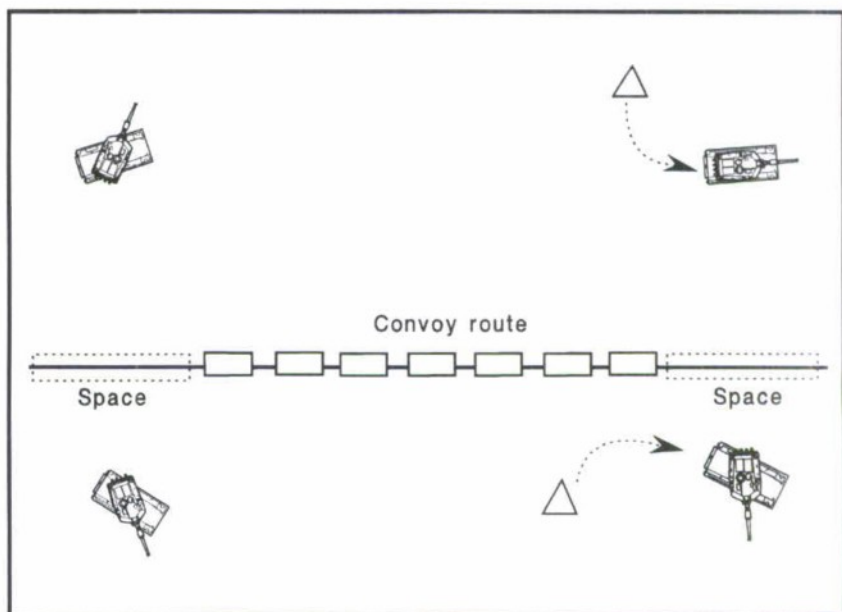
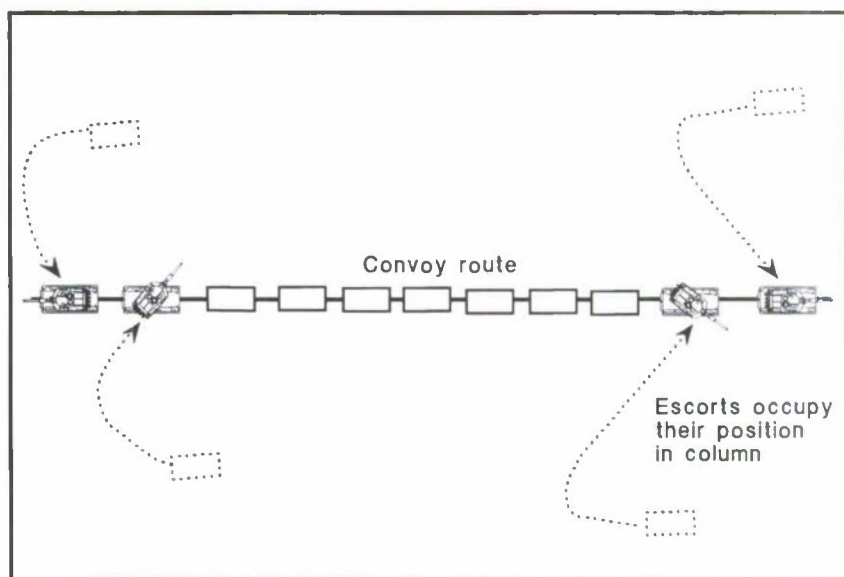

Figure 5-11B. Convoy moves back into column formation.
Figure 5-11C. Convoy escort vehicles rejoin column.
- When the order is given to move out, convoy vehicles reestablish the movement formation, leaving space for escort vehicles (see Figure 5-11B). Once the convoy is in column, local security elements (if used) return to their vehicles, and the escort vehicles rejoin the column (refer to Figure 5-11C).